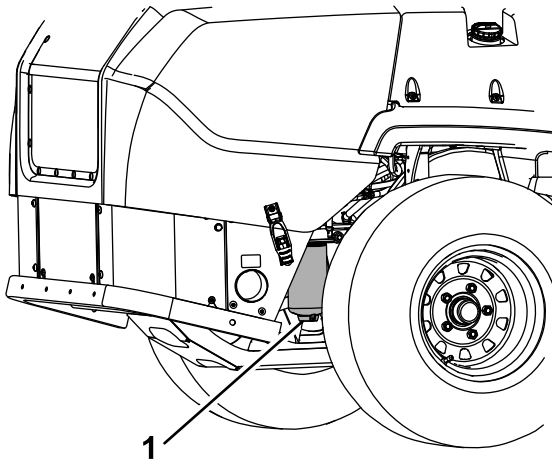

Figure 40
4. Open the drain plug on the water separator approximately 1 turn to allow water and other contaminants to drain (Figure 40).